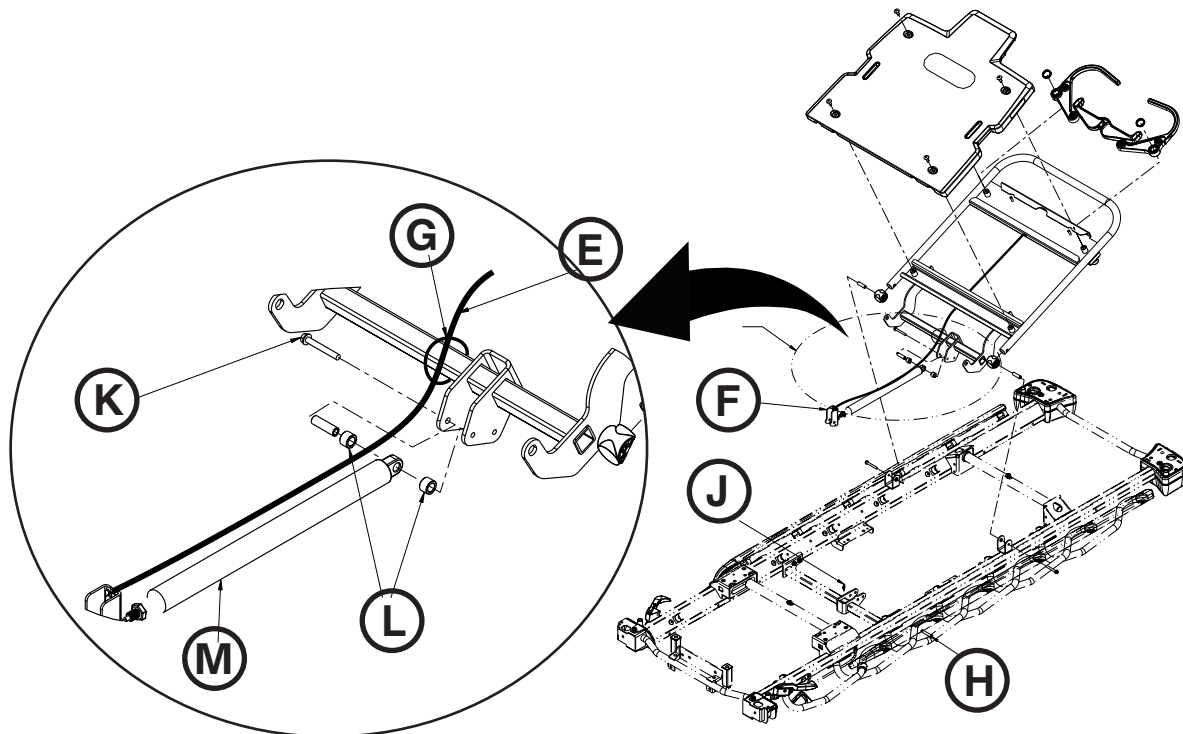

Figure 36
4. Remove the other end of the fowler cable assembly (E) from the gas spring trip (F) (Figure 36 on page 56).
5. Using diagonal pliers, cut the cable tie (G) that secures the fowler cable assembly to the fowler support bracket (Figure 36 on page 56). Discard the fowler cable assembly.
6. Using needle nose pliers, remove the clevis pin (H) and the rue ring cotter (J) that secure the gas spring trip to the litter frame (Figure 36 on page 56). Save the pin and cotter for reinstallation.
- Using a 3/8" socket with a 3/8" drive extension and a 3/8" drive ratchet, remove the hex washer head screw (K) and spacers (L) that secure the head end of the fowler gas cylinder (M) to the fowler frame (Figure 36). Save the screw and spacers for reinstallation.